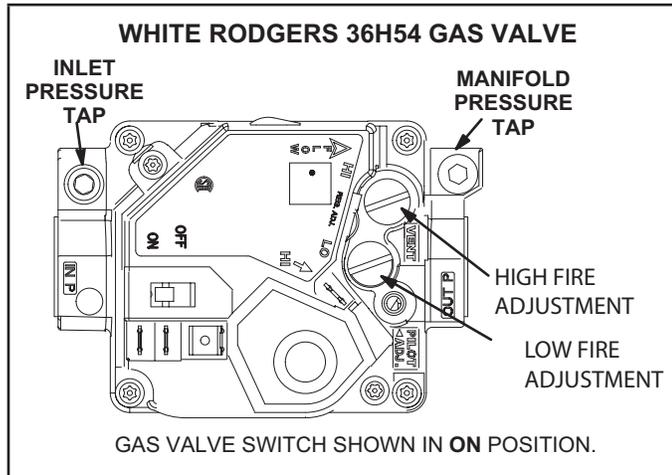
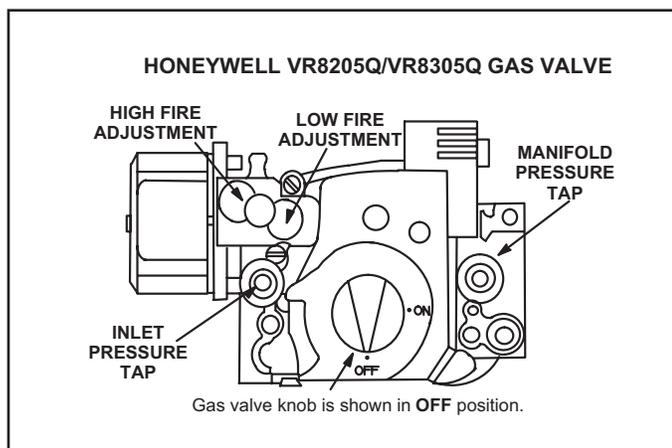

FIGURE 18
FIGURE 19
Gas Valve Operation FIGURE 18 and FIGURE 19
- 5 - Turn gas valve switch to OFF. See FIGURE 18. On Honeywell VR8305Q gas valves, turn the knob on the gas valve clockwise to "OFF". Do not force. See FIGURE 19.
- 6 - Wait five (5) minutes to clear out any gas. If you then smell gas, **STOP!** Immediately call your gas supplier from a neighbor's phone. Follow the gas supplier's instructions. If you do not smell gas, go to the next step.
- 7 - Turn gas valve switch to ON. See FIGURE 18. On Honeywell VR8305Q gas valves, turn the knob on the gas valve counter clockwise to "ON". Do not force. See FIGURE 19.
- 4 - Turn gas valve switch to OFF. See FIGURE 18. On Honeywell VR8305Q gas valves, turn the knob on the gas valve clockwise to "OFF". Do not force. See FIGURE 19.